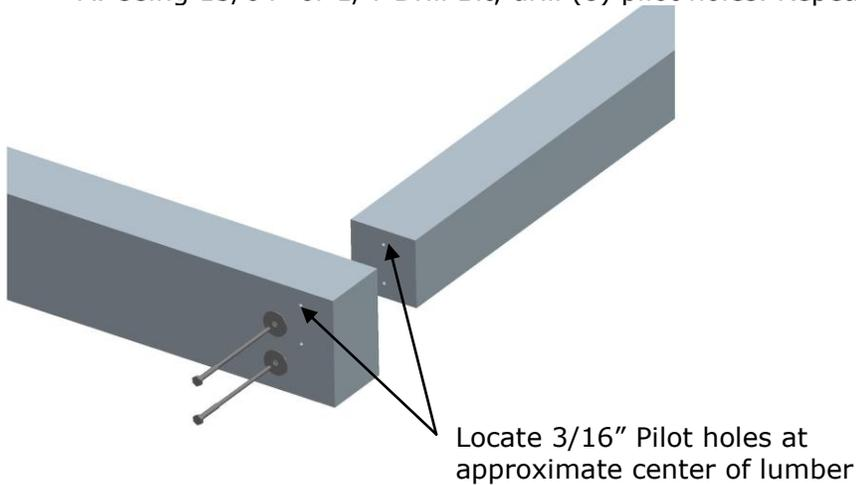

Figure 1
- A. Using 15/64" or 1/4" Drill Bit, drill (8) pilot holes. Repeat for all 4 corners (See Figure 1)
- A. Using 1/2" Deep Well Socket, assemble lumber using (2) 1" washers with (2) 6" x 5/16 Lag Screws. Repeat for all 4 corners (See Figure 1)